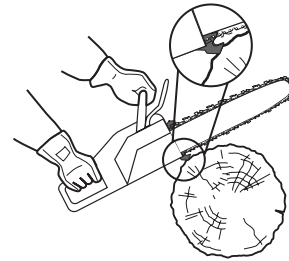

Fig. 28
5. Ensure the saw chain (10) is running at full speed before it makes contact with the wood. Use the spiked bumper to secure the product onto the wood before starting to cut and use it as a leverage point while cutting (Fig. 28).